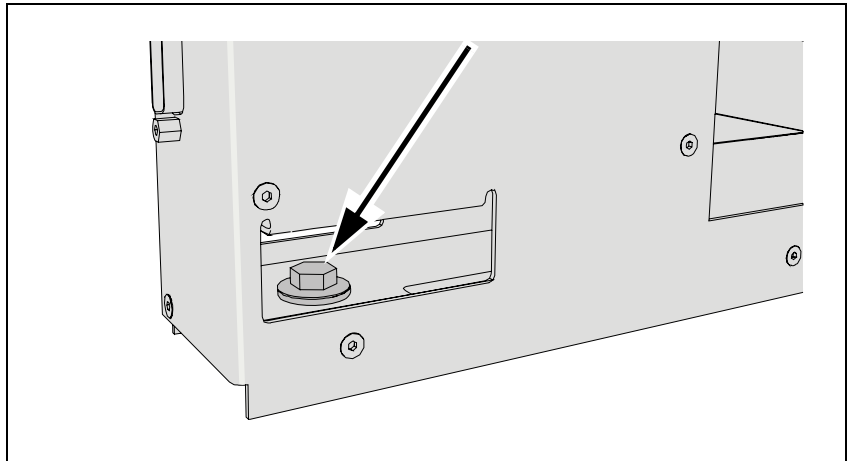

Figure 9-6. Loosen bolt.
1. loosen the rear bolt, see Figure 9-6.
4. When satisfied with the Y position, fasten screws (A) and the rear bolt (see Figure 9-6).